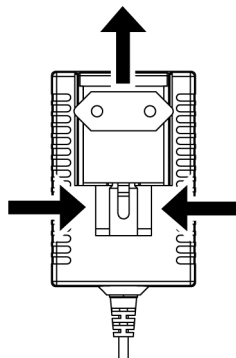

Fig. 6 PS4: Changing the AC line plug adapter
3. Slide a different AC line plug adapter into the slot (see Fig. 6).